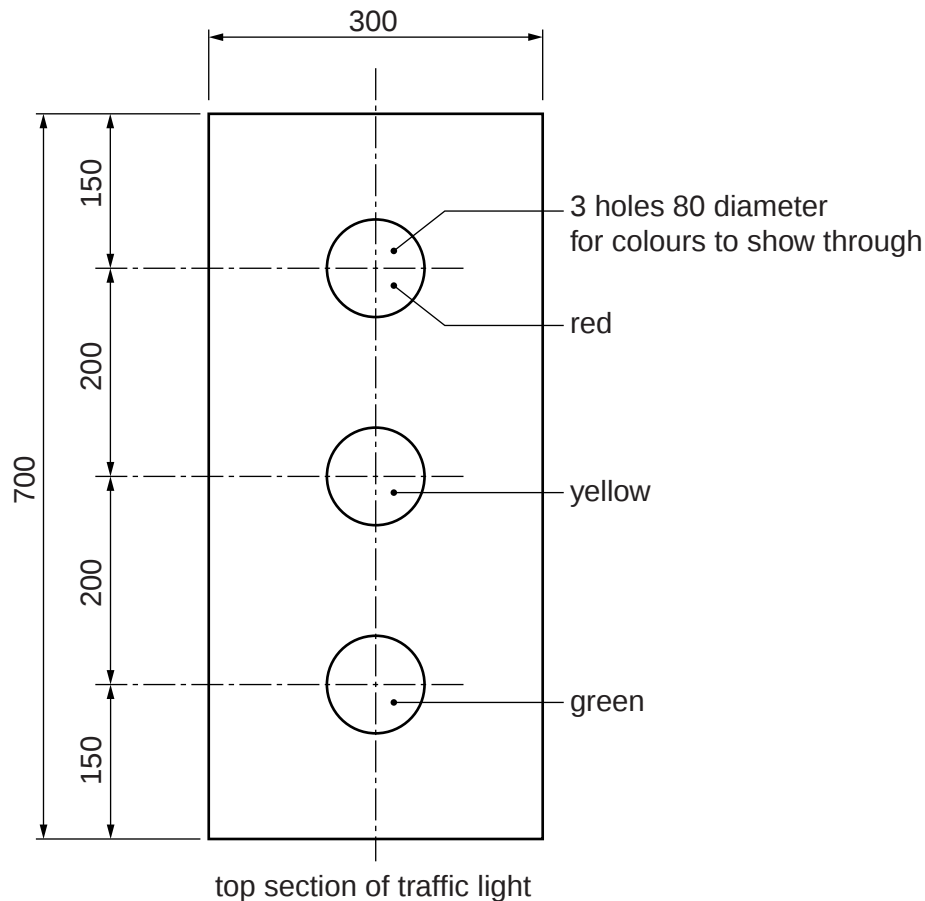

Fig. 9
- 9 Fig. 9 shows an incomplete idea for a hand-operated teaching aid to help children learn the sequence of traffic lights.